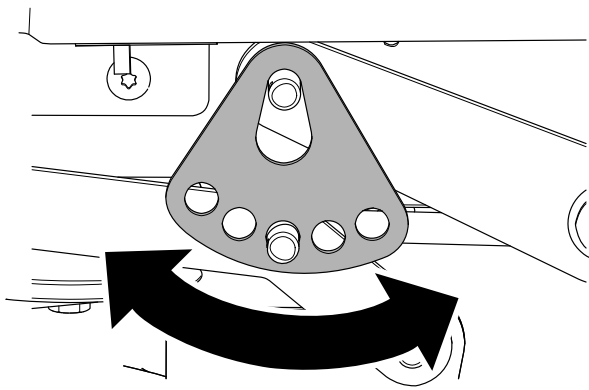

Figure 70
7. Rotate the height-of-cut plate to a different hole so that it supports the weight of the mower deck after you install the plate (Figure 70).
8. Install the washer and hairpin cotter (Figure 70).